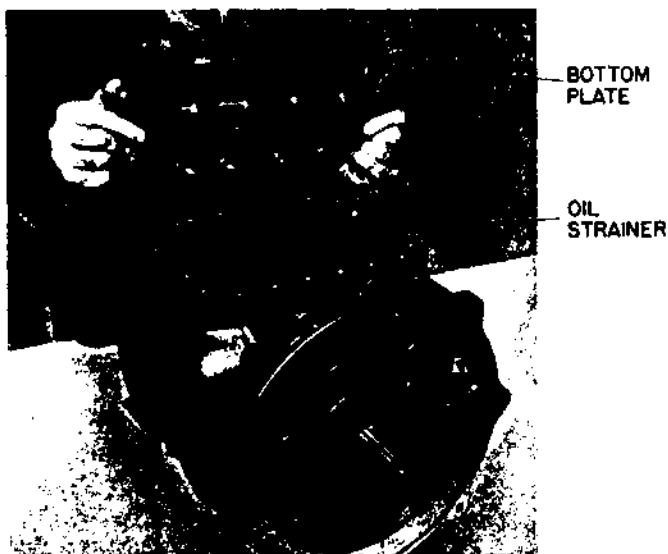

Figure 3-4. Bottom Plate Removal
a. Turn the compressor over, bottom side up, and remove the bottom plate. (See figure 3-4.) Scrape off gasket.